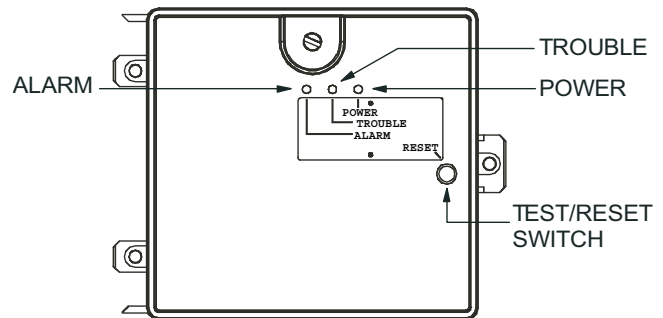

Fig. 43 — Controller Assembly
- The contacts on the controller's supervisory relay switch positions. (See Fig. 43.)